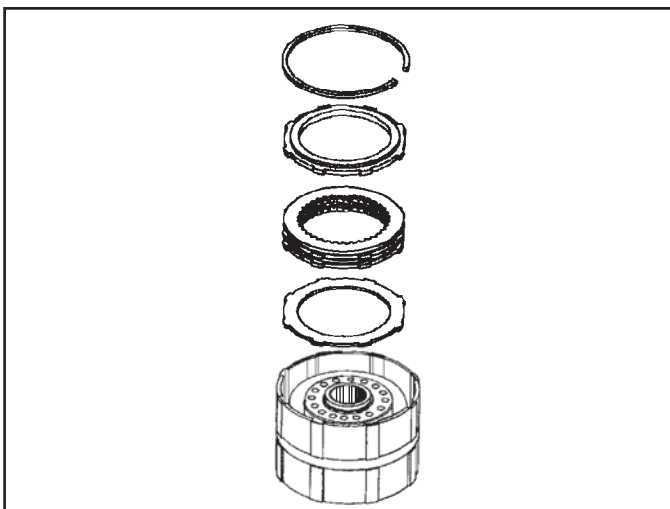

Figure 113
- Install the apply plate into the clutch housing with the fiber side facing up. Install all clutch plates starting with an internally splined plate first, alternate plates with the fiber side facing up (See Figure 113). There is a total of five internally splined and four externally splined fiber plates in this pack.
- Install the clutch backing plate and selective retaining snap ring (See Figure 113).